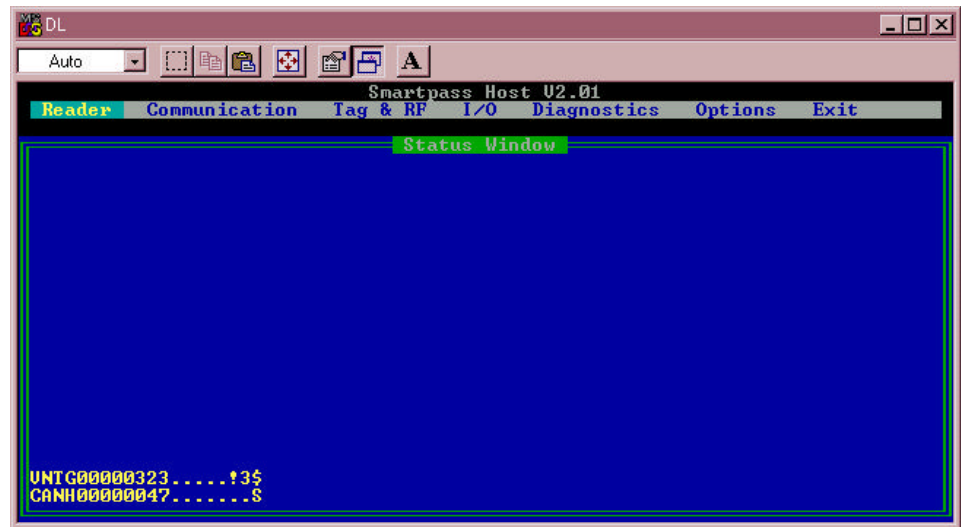

Figure 4-8 Second Successful Tag Read
- When SmartPass reads the second tag successfully, SmartPass Host displays that tag's information in the status window below the information for the first tag, as shown in Figure 4-8.